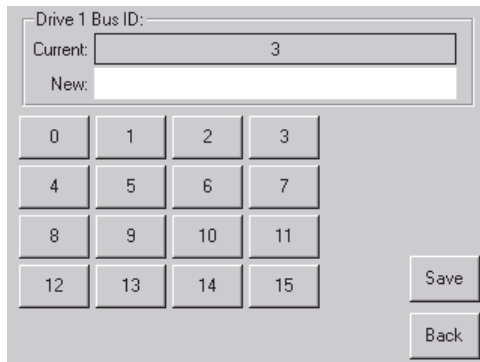

Figure 24. SCSI ID editing screen
5. Select the button next to the SCSI ID you want to set. The screen will display the current setting as shown in Figure 24.